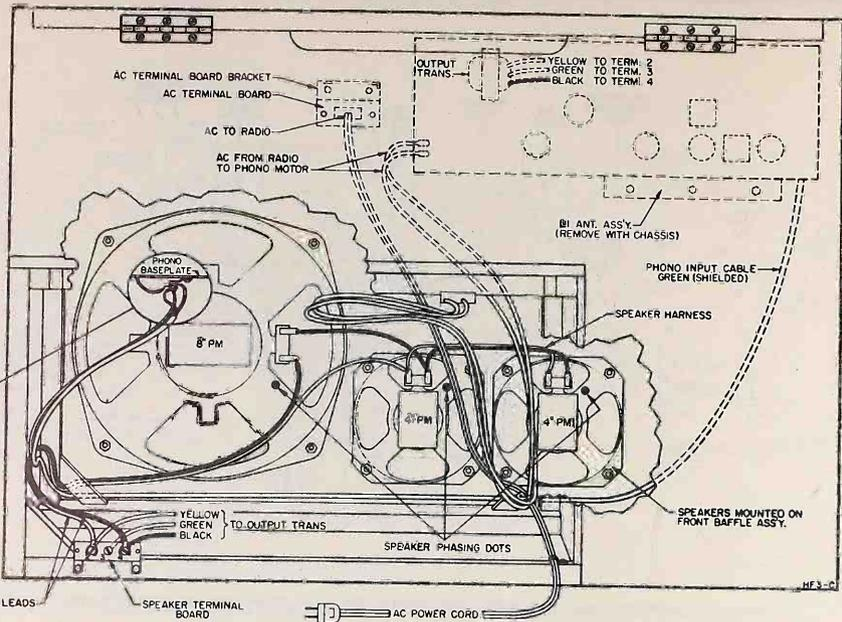

FIGURE 4. REAR VIEW OF CABINET, MODELS HR112AN AND HR113AN, SHOWING SPEAKER CONNECTIONS
5. Remove the two screws which hold the chassis to the front panel board to the interlock bracket. (Figure 4)